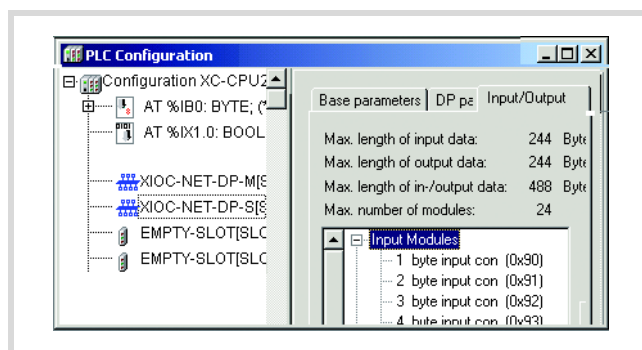
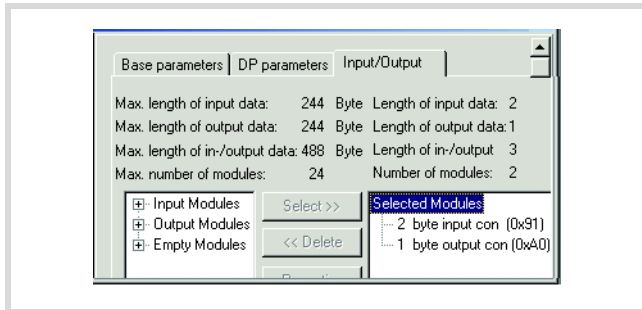

Figure 85: Selection of the inputs/outputs
Figure 86: Parametric programming of the inputs/outputs
- Select in the "Inputs/Outputs" tab (→ figure 85) the inputs/outputs for the slave, so that it corresponds to Figure 86.
The selection of the modules including their identity (e.g. 0x91) and their sequence must correspond with the selection in the DP-M/DP-S module → figure 86.